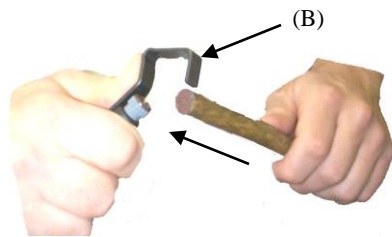

Fig. 2
**Step 2.** (Fig. 2) With thumb on the back of upper jaw frame (B), push upper jaw outward, insert cable at desired position and release upper jaw.